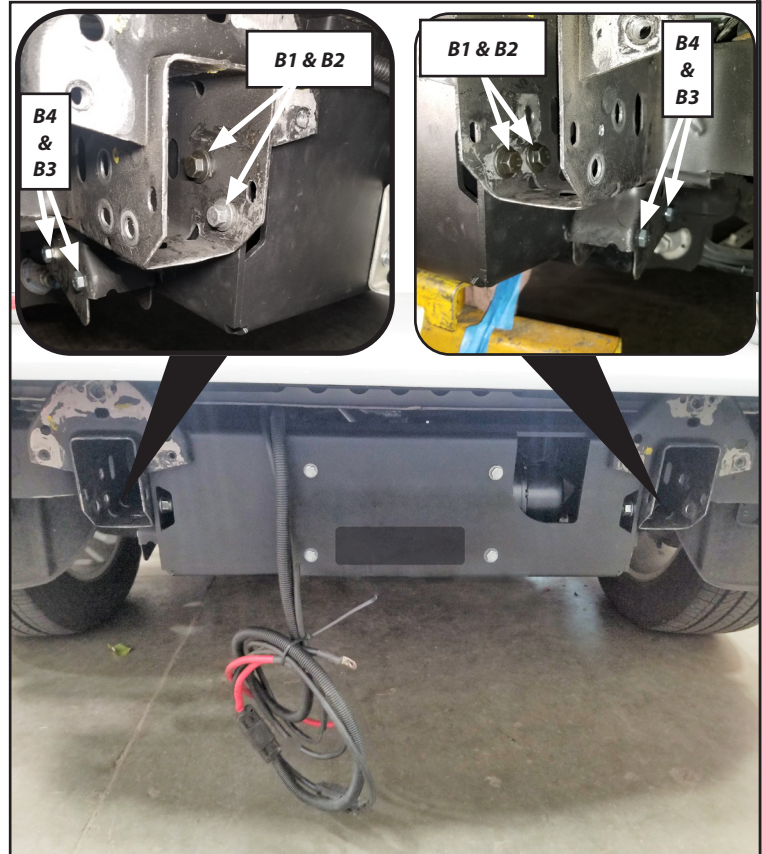

Figure 10
9. Install winch carrier assembly to the vehicle by installing the two M12 x 1.75 bolts (B1) and nuts (B2) and two M10x1.5 flange bolts (B4) and lock nuts (B3) as shown in Figure 10. **TIP:** Use a wrench to hold the nuts through the front cutouts of the winch tray.